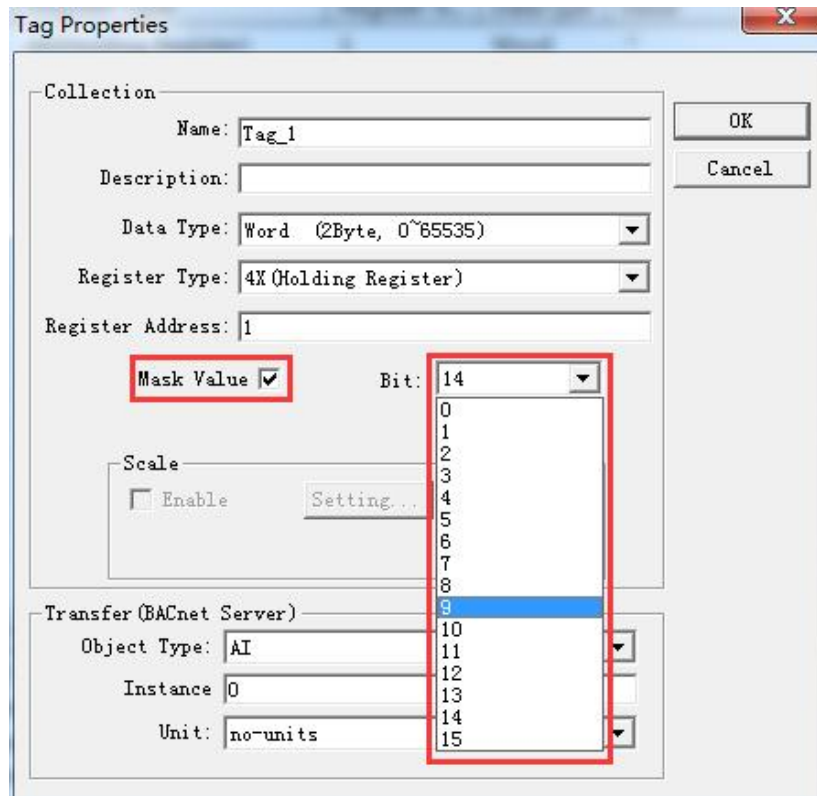

Figure 2-2-6 Pick up a Bit
- **Mask Value:** Check single box “Mask Value” to pick up a bit from 0 to 15 of some register if necessary,as the following Figure 2-2-6 shows.